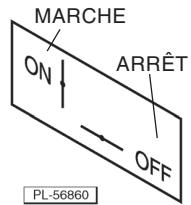

Fig. 5
COMMANDES (FIG. 5) – GRILLOIRES HGB (M)